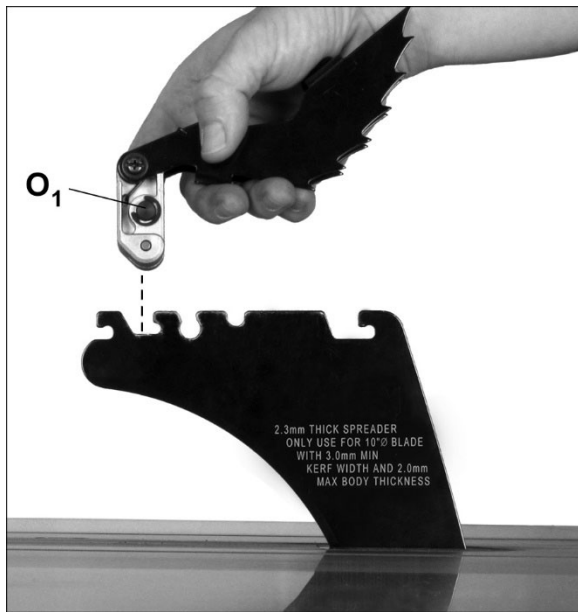

Figure 6-11
See Figures 6-11 and 6-12.
2. Push and hold button (O1) on opposite side of the head to release the catch pin. Mount pawl assembly straight down, in the location shown in Figure 6-11.